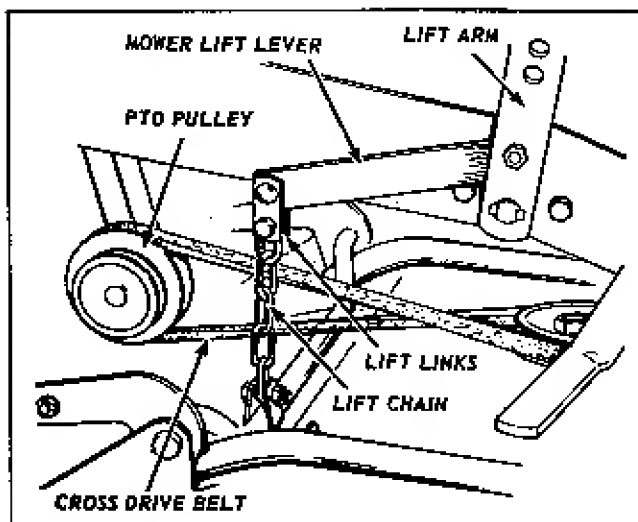

FIG. 3
3. Place the tractor lift lever in its rear position and attach the mower lift lever to the tractor lift arm on right hand side of tractor as shown in figure 3. Use hex capscrow, flatwashers, and hex nut furnished for this purpose.
4. Connect the mower lift chain to the lift lever by fastening the lift links in place with a pin and hair cotter as shown in figure 3.
5. Place the cross drive belt in position on the mower drive pulley. Give the belt a 90° twist towards the left hand side of the tractor and mount belt to larger pulley of power take-off as shown in figure 3. When installed in proper manner, the belt should run from the left side of the mower pulley to bottom side of power take-off pulley.